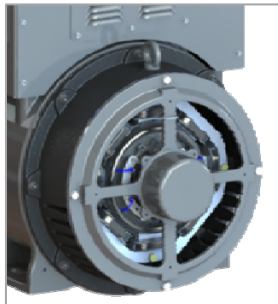

Figure 14.39: Installation of cover with PMG
- 5) Assemble and fasten the exciter cover with PMG through the 4 hexagon headed screws M10 with torque of 40 to 49 Nm, according to Figure 14.39;